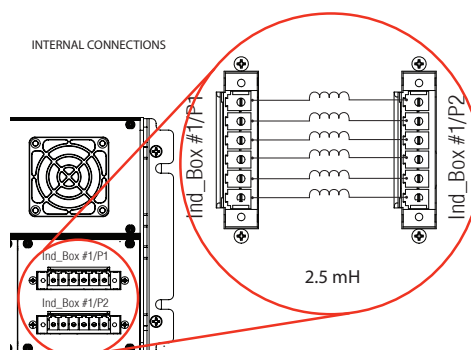

Figure 18: Inductor connection diagram
- B. Phoenix terminal connectors. Connector P1 connects one side of the inductors while P2 connects the other (see Figure 18). Terminal 1 on both P1 and P2 connect to the OP1261 Measurement Box connector P7 and P8.